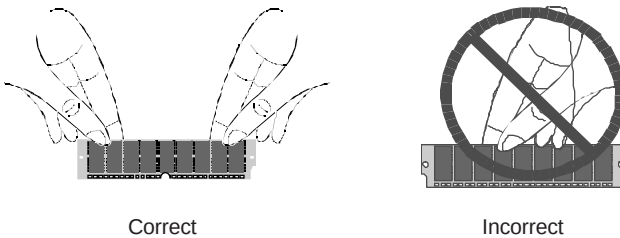
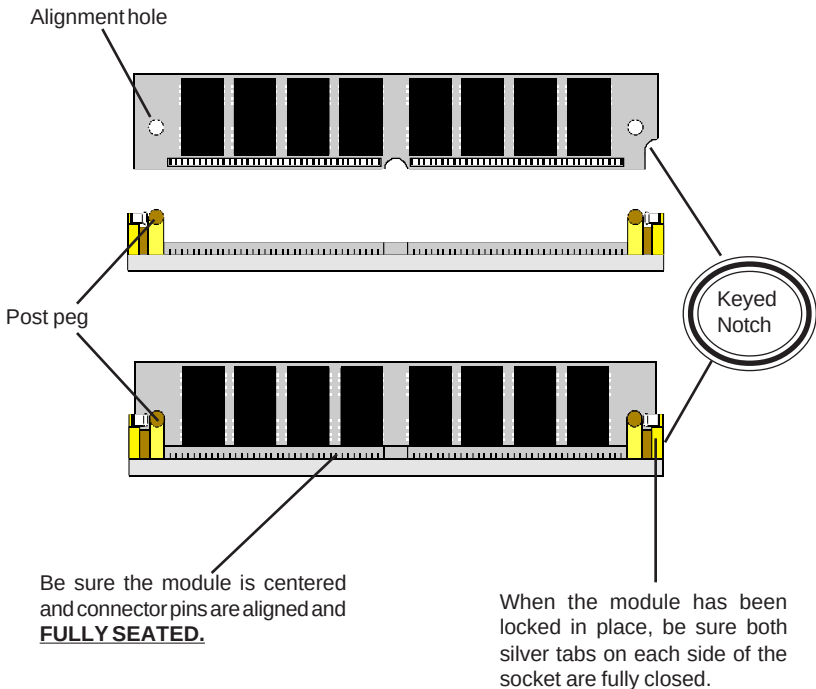

Figure 2-9. Handling a SIMM
Figure 2-11. SIMMs with Keyed Notch
Step 1: Using both hands, carefully set the SIMM into the socket at a **45 degree angle**, tilted towards the CPU socket (refer to Figures 2-9 and 2-10). Do not force it in or damage may result. Note that the SIMM modules are keyed in such a way that they cannot be inserted incorrectly (refer to Figure 2-11 on page 14). If you are having difficulty placing them into the socket, check to see that you are not attempting to insert them backwards. **Do not lock the module into position at this time.**